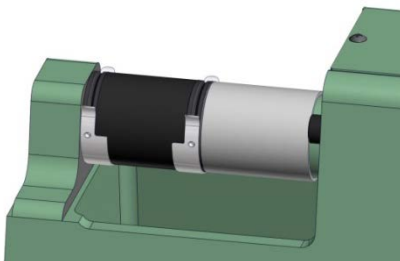

Figure 5.1.4
4. Toggle and hold the Motor Start Switch to the left to begin the specimen loading process. Continue to load the specimen until it breaks. (See Figure 5.1.4).